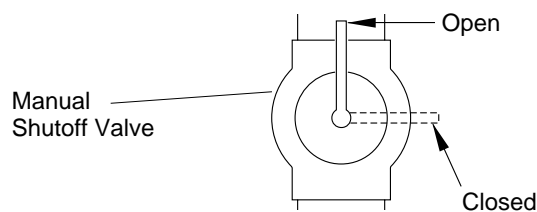

Figure 14 - Manual Shutoff Valve
1. Close manual shutoff valve (see Figure 14).
1. Open manual shutoff valve (see Figure 14).
4. Check all joints from manual shutoff valve to gas control (see Figure 14). Apply mixture of liquid soap and water to gas joints. Bubbles forming show a leak.